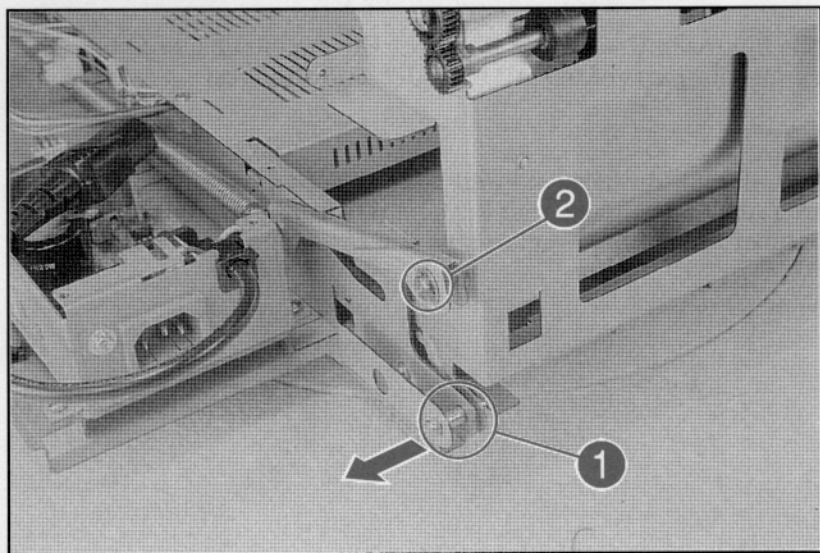

Figure A-23 Switchback Assembly Hinge Pins
- 1 Pull out the pin located on the Power PCA side (see Figure A-23, callout 1).
- 2 Release the (1) E-clip on the upper pin near the retaining arm (see Figure A-23, callout 2).